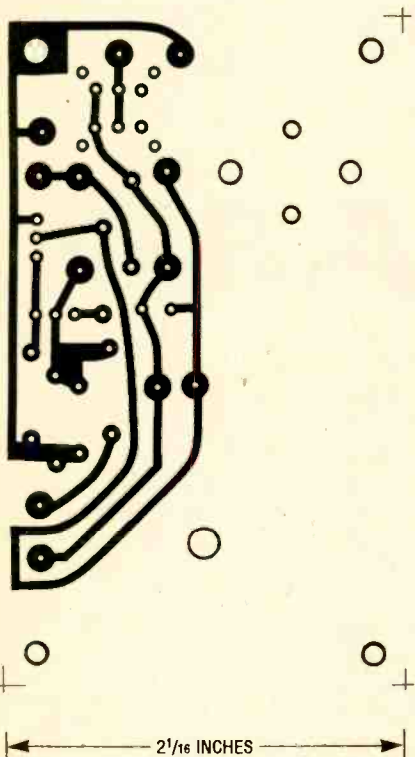
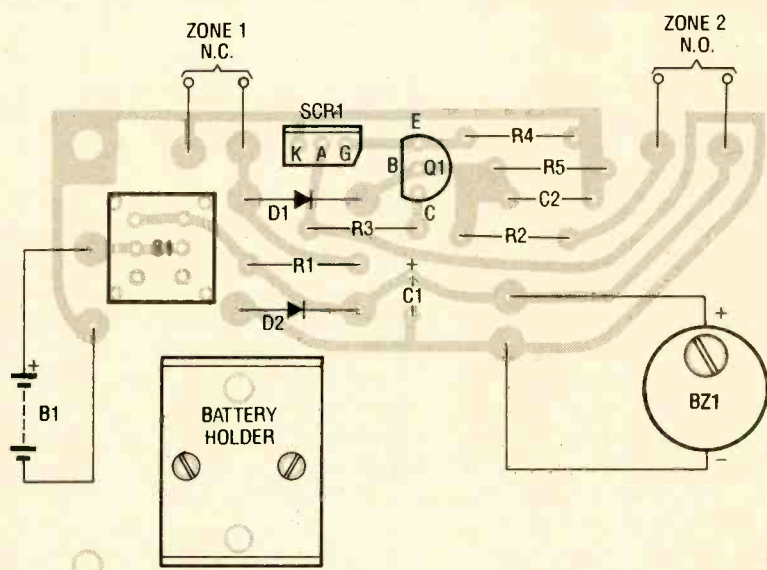

Fig. 2. If you want to build the project from scratch, here is a foil pattern for the printed-circuit board.
Fig. 3. When installing the board-mounted parts, be sure that each component is placed in the correct position, with the proper orientation.
Fig. 3. Details of the scoring jig's construction. The scoring jig is nothing more than two pieces of hard wood attached at a right angle, and a slider made from a block of wood and an angle bracket. The jig also has a slot cut into one edge for a glass cutting tool.
**Building the Scoring Jig.** The second part of the project consists of a scoring jig; see Fig. 3 for details of its construction. The dimensions given assume that you'll be using the jig for fifth- (25.4 milliliter) or liter-sized bottles. An ordi-
The glass cutter is held securely in place by a tight-fitting notch sawed into the side of the jig (see Fig. 3), and prevented from jumping out by a metal brace screwed to the wood. When the cutter needs replacement, the brace can easily be removed, and a new one installed.
who want to build the project from scratch, a foil pattern for the PC board is provided in Fig. 2, and Fig. 3 is a parts-placement diagram. Simply install each part on the printed-circuit board in the order that they appear in the Parts List.
ground lead is required. So you must solder a length of wire to the tab, and then connect it to the printed-circuit board, as shown in Fig. 3.
Fig. 2. While the Electronic Novelty Light is simple enough to be assembled on a small section of perfboard, this foil pattern is provided for those who prefer printed-circuit board construction.
Fig. 3. There are only four components mounted to the printed-circuit board—hardly enough parts to screw up. In fact, the only error that might occur during construction has to do with the orientation of the SCR.
To make things even more simple, a foil pattern for the author's printed-circuit board is shown in Fig. 2. After etching your board, install the board-mounted components guided by Fig. 3.